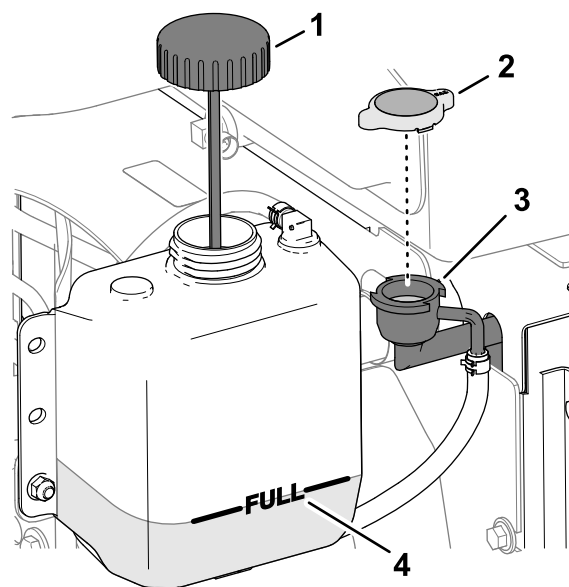

Figure 108
3. Carefully remove the radiator cap (Figure 108).
Note: The coolant level is correct if it is to the top of the filler neck of the radiator (Figure 108).